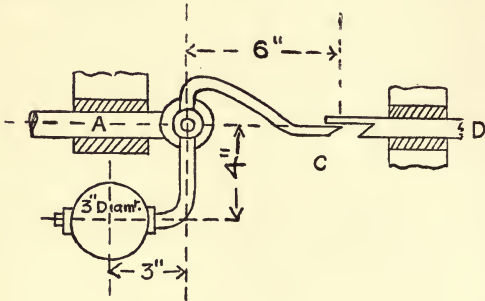

Fig 1
1. A simple form of "hit and miss" governor for a gas engine is illustrated in fig. 1. The rod  $A$  is moved to and fro by means of a cam and carries with it the bent lever  $C$  having a solid ball  $B$  at one extremity. If the forward acceleration of  $A$  is sufficiently great, the inertia of the ball causes the end of  $C$  to fall clear of the push piece  $D$  which operates the gas inlet valve.